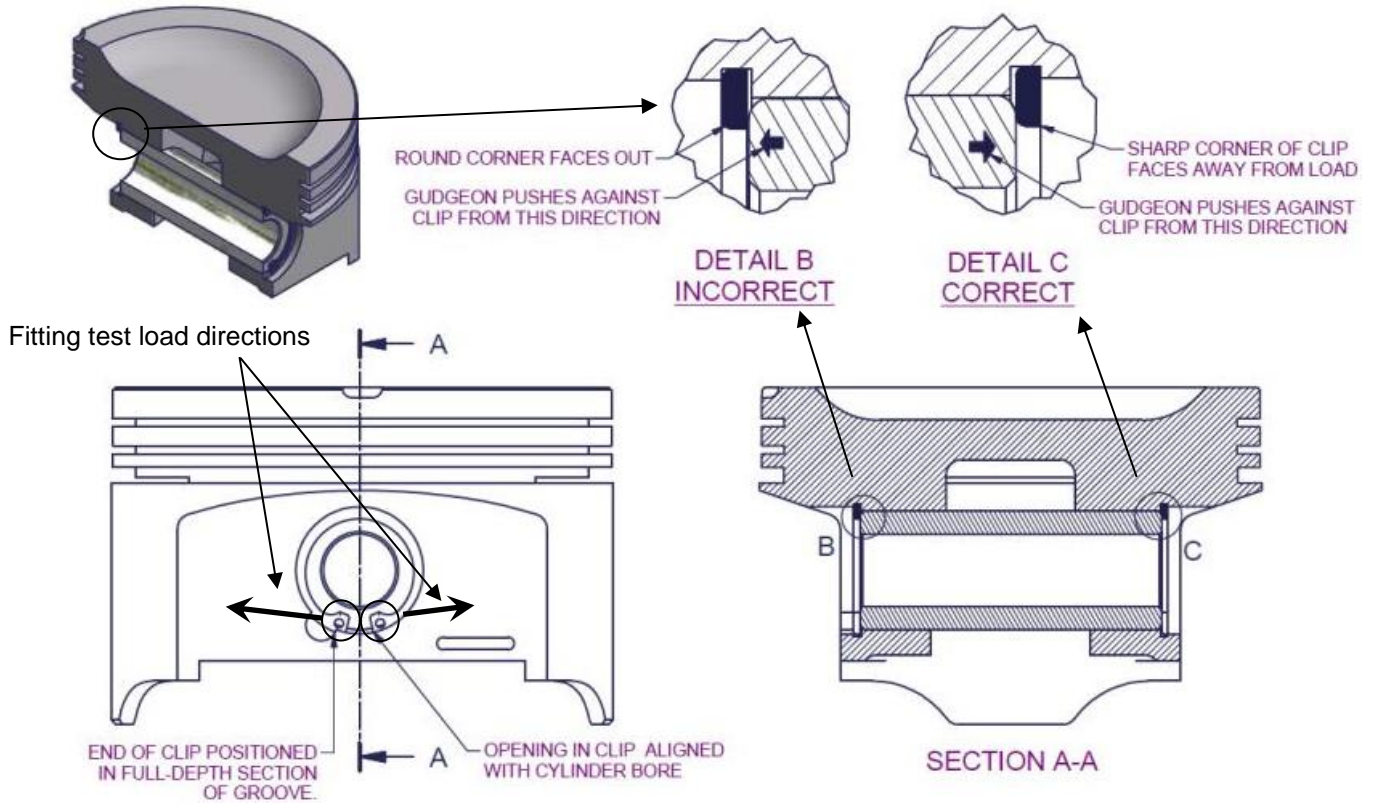

Figure 2 – Clip Installation Details
- Clips must be oriented correctly on installation: See Figure 2: the clips must be fitted with the sharp-edged corner facing outwards.
- Ensure that the opening in the clip is oriented as shown in Figure 2: it must face along the axis of the barrel.
- Ensure that the ends of the clip are both positioned within full-depth sections of the groove as shown in Figure 2.
- After fitting use a small screwdriver or pick to apply pressure to the clip as shown in Figure 2: the clip should not rotate. If the clip moves, discard it and fit a replacement.